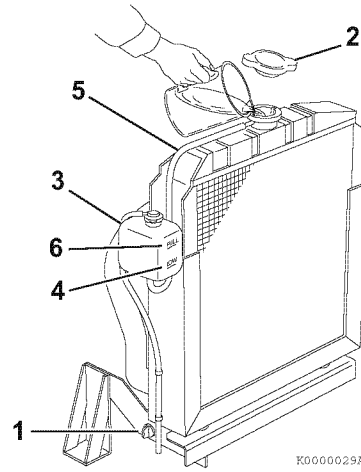
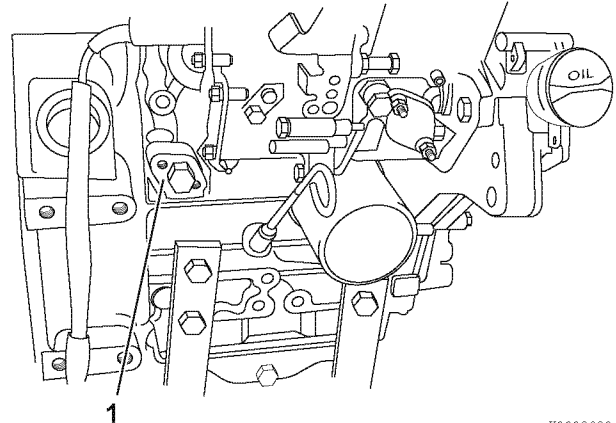

Figure 4-7
Figure 4-8
1. Check to be sure the radiator drain plug is installed and tightened or the drain cock (**Figure 4-7, (1)**) is closed. Also make sure the coolant drain plug (**Figure 4-8, (1)**) in the cylinder block is closed.
2. Remove the radiator cap (**Figure 4-7, (2)**) by turning it counterclockwise about 1/3 of a turn.
4. Reinstall the radiator cap (**Figure 4-7, (2)**). Align the tabs on the back of the radiator cap with the notches on the engine coolant filler port. Press down and turn the cap clockwise about 1/3 of a turn.
5. Remove the cap of the reserve tank (**Figure 4-7, (3)**), and fill it to the LOW (COLD) mark (**Figure 4-7, (4)**) with engine coolant. Reinstall the cap.
6. Check the hose (**Figure 4-7, (5)**) that connects the reserve tank (**Figure 4-7, (3)**) to the radiator. Be sure it is securely connected and there are no cracks or damage. If the hose is damaged, engine coolant will leak out instead of going into the reserve tank.
7. Run the engine until it is at operating temperature. Check the level of engine coolant in the reserve tank. When the engine is running and the engine coolant is at normal temperature, the coolant level in the tank should be at or near the FULL (HOT) mark (**Figure 4-7, (6)**). If the engine coolant is not at the FULL (HOT) mark (**Figure 4-7, (6)**), add additional engine coolant to the reserve tank to bring the level to the FULL (HOT) mark.